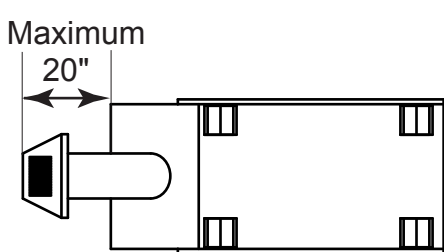
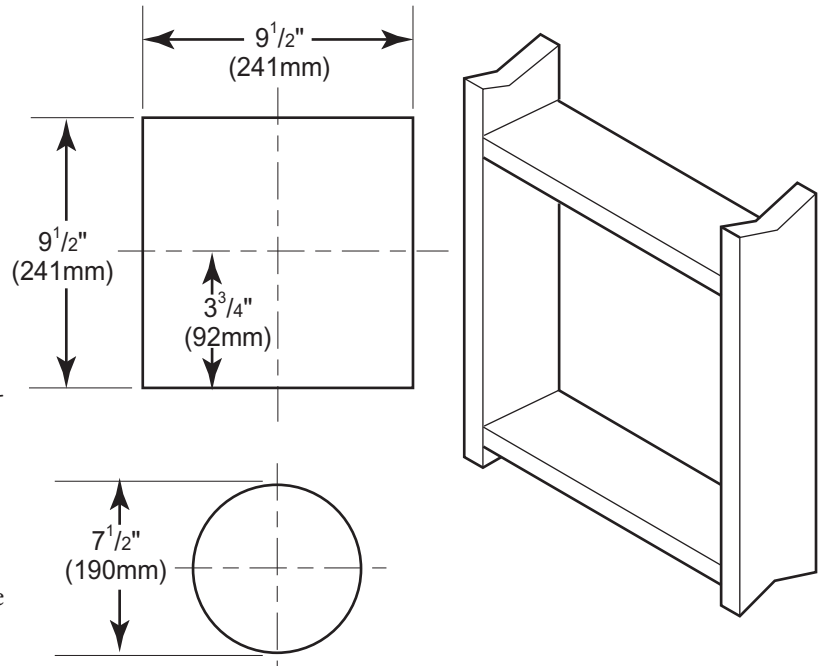

Figure 11 - Rear Vent Application, Maximum Horizontal Distance
Figure 12 - Vent Opening Requirements
- The maximum horizontal distance between the rear of the appliance and the outside of termination is 20" (508 mm). See Figure 11.
1. Locate and cut the vent opening in the wall. For combustible walls first frame in opening. See Figure 11.
Combustible Walls: Cut a 9 1/2" H x 9 1/2" W (241mm x 241mm) hole through the exterior wall and frame as shown. See Figure 12.
3. Attach vent pipe assembly to the fireplace. Set fireplace in front of its permanent location to insure minimum clearances. Mark the wall for a 9 1/2" H x 9 1/2" W (241mm x 241mm) square hole (for noncombustible material such as masonry block or concrete, a 7 1/2" [190mm] diameter hole is acceptable). See Figure 11. The center of the hole should line up with the center line of the horizontal rigid vent pipe end. Be sure to allow for minimum rise. Cut a 9 1/2"x9 1/2" (241mm X 241mm) square hole through combustible exterior wall (7 1/2" [190mm] diameter hole if noncombustible). Frame as necessary. Allow 1/4" minimum rise per foot. See Figure 12.
1. Establish vent hole through the wall. *See Figure 12, page 17.*